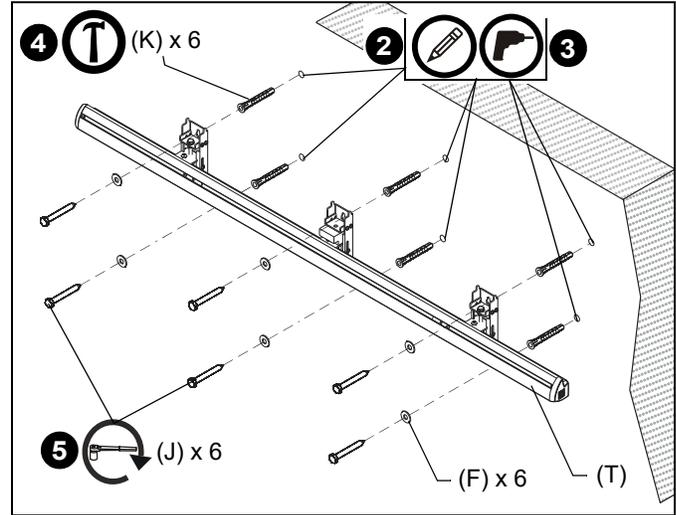

Figure 5
2. Using the wall assembly (T), mark the wall above existing chalkboard/whiteboard through mounting holes in each bracket. (See Figure 5)
3. Drill one 5/16" x 2-3/4" pilot hole at each marking. (See Figure 5)
4. Install an anchor (K) into each pilot hole using a hammer. (See Figure 5)
5. Use six 1/4" x 2-1/2" lag bolts (J) and six 1/4" flat washers (F) to attach wall assembly (T) to anchors in wall. (See Figure 5)